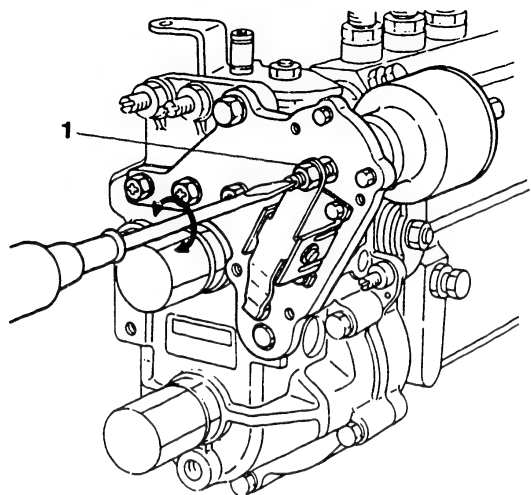

Fig. 177 Adjustment of control rack position
- 1) Supply negative pressure P_1 mmHg and adjust using the adjusting screw so that the control rack position is R_1 mm. Check that fuel injection quantity Q_1 cc/1000 st is obtained at this point. (Figs. 177 and 178)